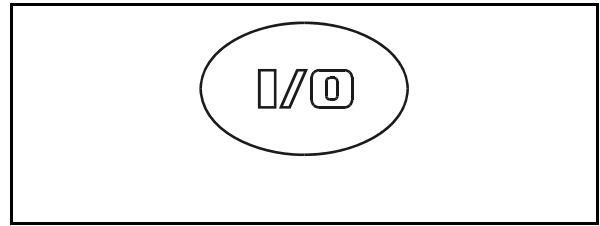

Fig. 28
ON (I) / OFF (O) (Fig. 28). Via this key you switch the **AMATRON+** on and off.